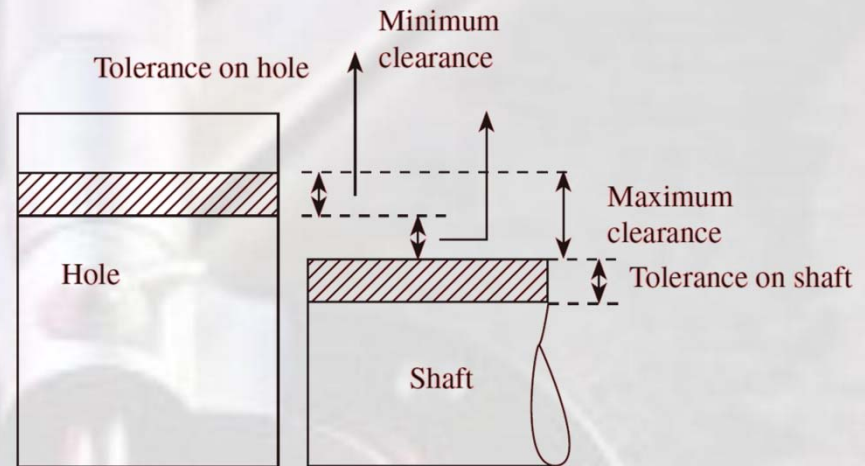

Fig. 3.9 Clearance fit
- ✓ In case of clearance fit, the difference between the sizes is always positive. The clearance fit is described in Fig. 3.9.